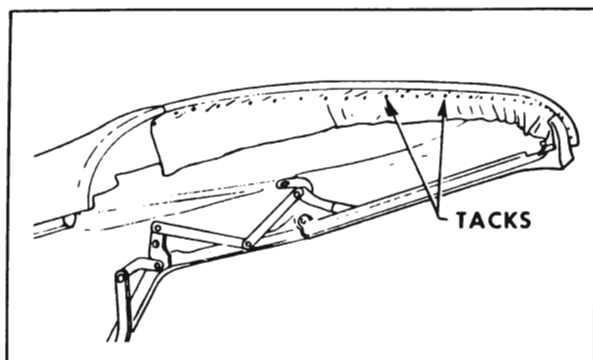

Figure 7-49—Installation of Top Material To Front Roof Rail
47. Unlock top from windshield header and apply neoprene-type weatherstrip adhesive to tacking area of front roof rail. Pull top trim material slightly forward so that pencil marks are forward of front edge of front roof rail. Fasten top trim to cemented area and stay tack trim to rail (see Figure 7-49).